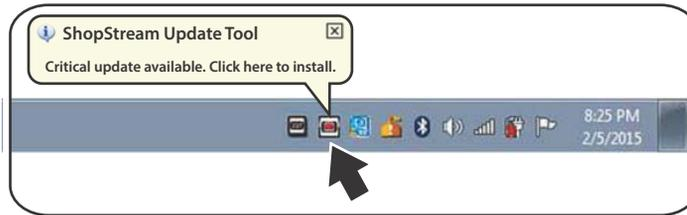

Figure 16-6 Typical update installation message
When a software update is ready for installation, an installation update message will appear (Figure 16-6). You can select the message or the SST icon from the Windows taskbar notification area at anytime to start the software update installation process.
1. Select the software update available message (Figure 16-6), or the SST icon from the notification area.